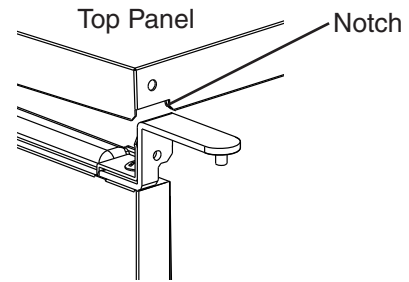

Fig. 14
e) Rotate the top panel 180° from its previous position. This brings the notch that was previously in the right rear to the left front. See Fig. 14. Hook the rear part of the panel on the body, then secure the front with the 2 bolts removed in step 6a.